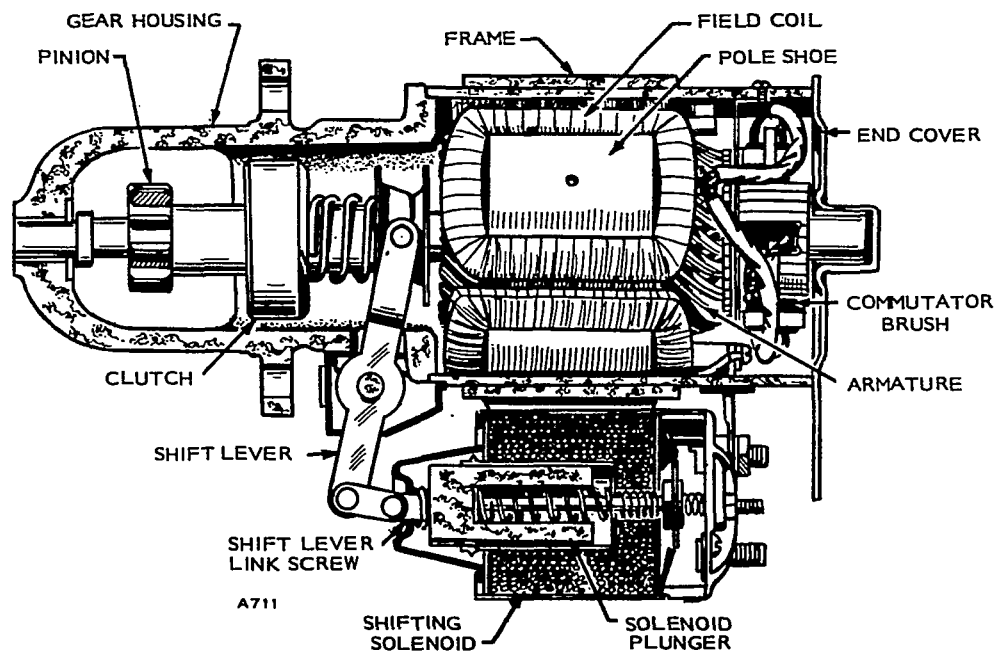

FIGURE 47. STARTING MOTOR
1. Remove connections to controls and battery at shifting solenoid. Figure 47.